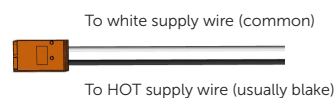

Figure 3 - Connect Wiring Harness
3. Connect white supply wire (neutral) to the Q-Lux wiring harness white wire using a wire connector. Connect the HOT (usually black) supply wire to the Q-Lux wiring harness black lead (120V) using a wire connector. (Wire connectors sold separately). Figure 3.